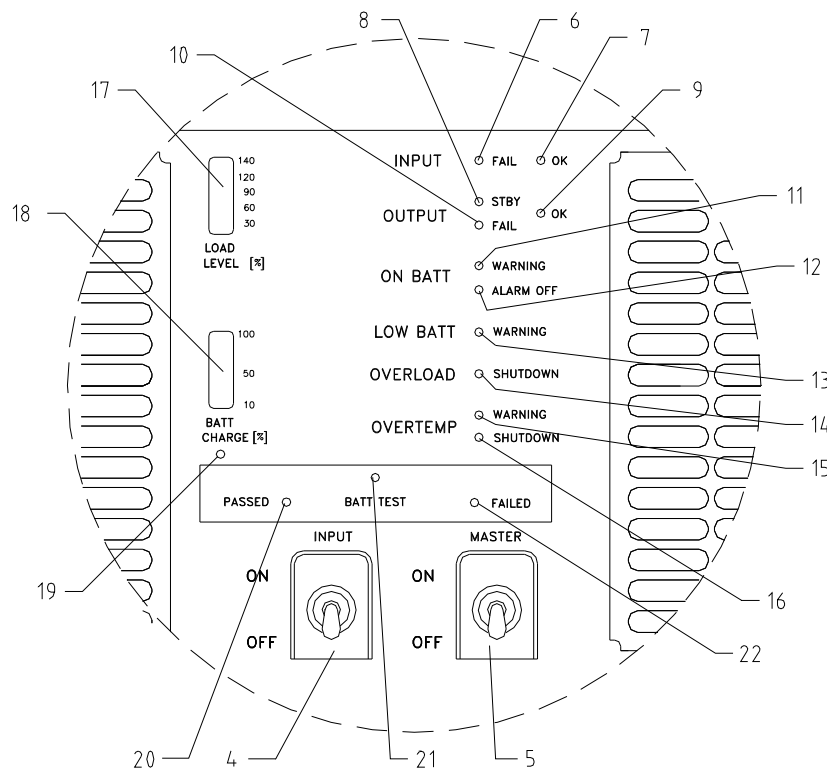

Figure 5 – Front Panel: Indicators and Switches
- 2. Visual Indicators and Switches (for detailed view see Figure 5).**
4.2 Front Panel: Indicators and Switches (See Figure 5)